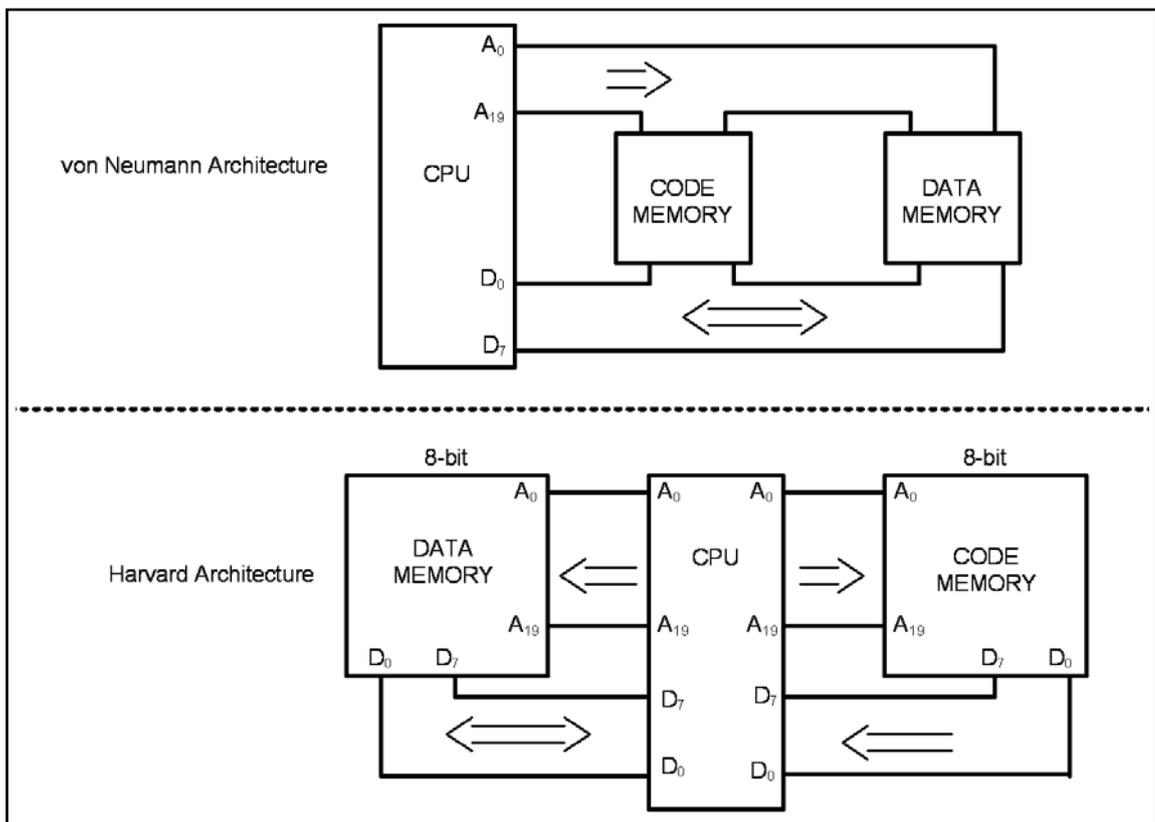

Figure 0-33. von Neumann vs. Harvard Architecture
processed. The CPU uses buses (wire traces) to access the code ROM and data RAM memory spaces. The early computers used the same bus for accessing both the code and data. Such an architecture is commonly referred to as *von Neumann (Princeton) architecture*. That means for von Neumann computers, the process of accessing the code or data could cause them to get in each other's way and slow down the processing speed of the CPU, because each had to wait for the other to finish fetching. To speed up the process of program execution, some CPUs use what is called *Harvard architecture*. In Harvard architecture, we have separate buses for the code and data memory. See Figure 0-33. That means that we need four sets of buses: (1) a set of data buses for carrying data into and out of the CPU, (2) a set of address buses for accessing the data, (3) a set of data buses for carrying code into the CPU, and (4) an address bus for accessing the code. This is easy to implement inside an IC chip such as a microcontroller where both ROM code and data RAM are internal (on-chip) and distances are on the micron and millimeter scale. But implementing Harvard architecture for systems such as x86 IBM PC-type computers is very expensive because the RAM and ROM that hold code and data are external to the CPU. Separate wire traces for data and code on the motherboard will make the board large and expensive. For example, for a Pentium microprocessor with a 64-bit data bus and a 32-bit address bus we will need about 100 wire traces on the motherboard if it is von Neumann architecture (96 for address and data, plus a few others for control signals of read and write and so on). But the number of wire traces will double to 200 if we use Harvard architecture. Harvard architecture will also necessitate a large number of pins coming out of the microprocessor itself. For this reason you do not see Harvard architecture implemented in the world of PCs and workstations. This is also the reason that microcontrollers such as AVR use Harvard architecture internally, but they still use von Neumann architecture if they need external memory for code and data space. The von Neumann architecture was developed at Princeton University, while the Harvard architecture was the work of Harvard University.